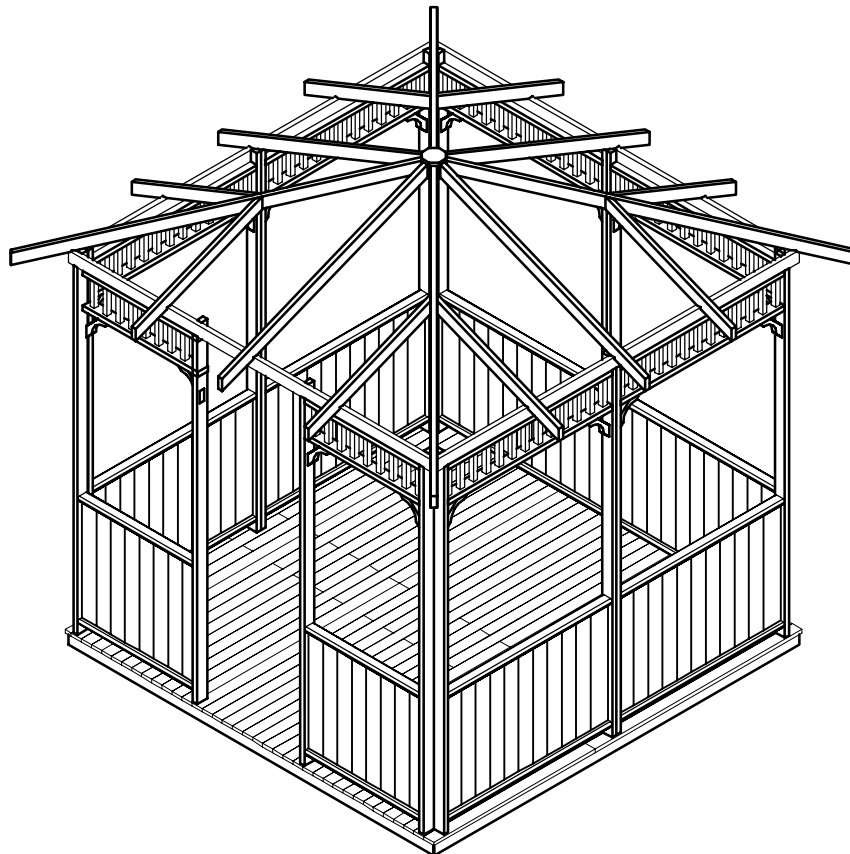
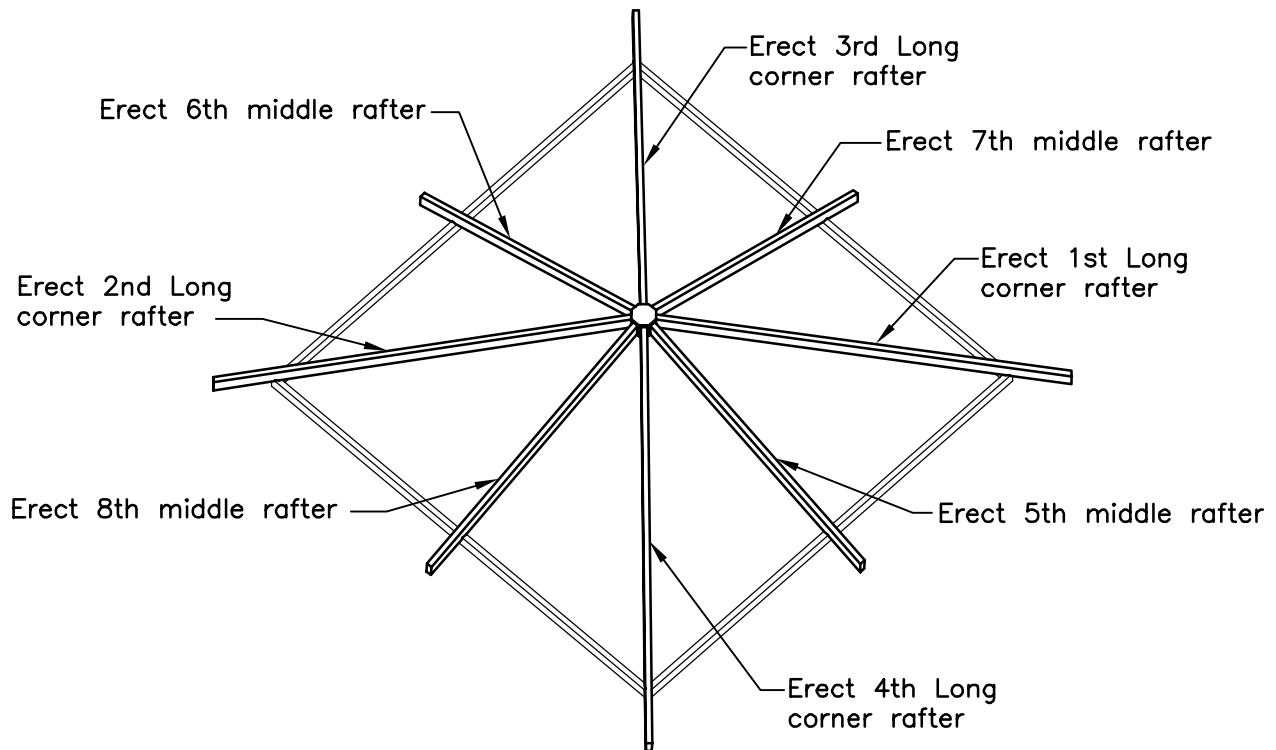

FIGURE S21
FIGURE S22
- Place the corner rafter over top of the wall section corner. Toe nail using screws the rafter to header. See Figure S21. Toe nail the short rafters to the header and nail the top of each short roof rafter to the corner rafters using 3 inch screws. See Figure S22 for completion of rafter system.
● Once the first rafter is up, attach the rafter on the opposite corner. See Figure S22 for the proper sequence. Erect and secure all rafters as shown.